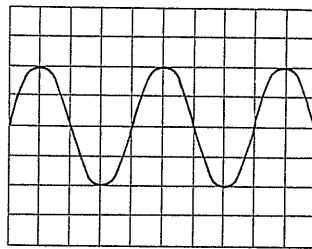
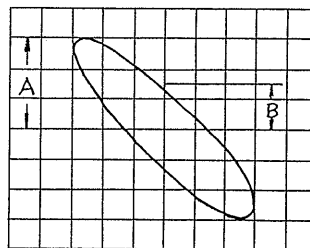

Fig. 4
Fig. 7
When a sine waveform as shown in Fig. 4 is observed, read the vertical amplitude of the waveform in centimeters, and the peak-to-peak voltage can be obtained as follows:
- (2) Adjust the SENSITIVITY switch, VARIABLE knob and AMPLITUDE knob for an appropriate size of pattern on the screen as shown in Fig. 4. Vary the frequency of the low-frequency oscillator. The phase difference between the vertical and horizontal amplifiers appears when a loop as shown in Fig. 7 is observed at a frequency higher than several kilohertz. The phase difference is read from the pattern as follows: